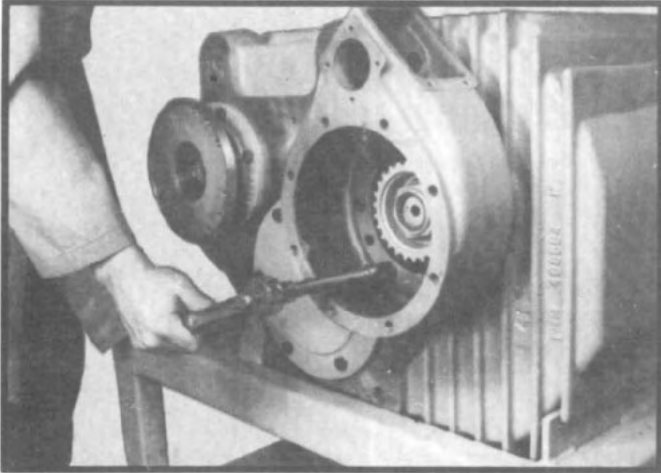

Fig. 173 Location of Declutch Housing
Note: The PTO and declutch assemblies are similar except for the manner in which the housings are bolted to the transfer case. See figs. 173 and 174 for mounting of appropriate housing.
1. Bolt PTO/declutch housing and gasket to main case with six capscrews. Be sure to align oil passages. Tighten capscrews to correct torque. (See fig. 173)